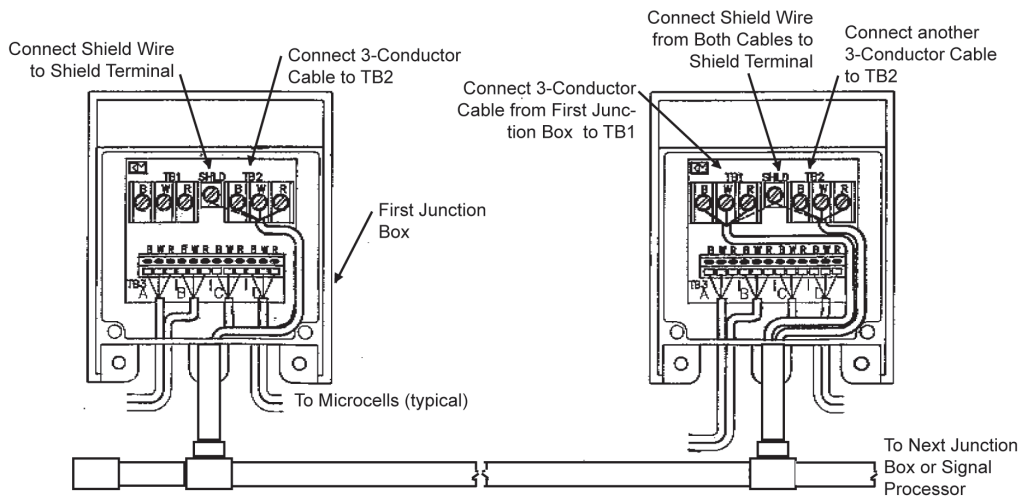
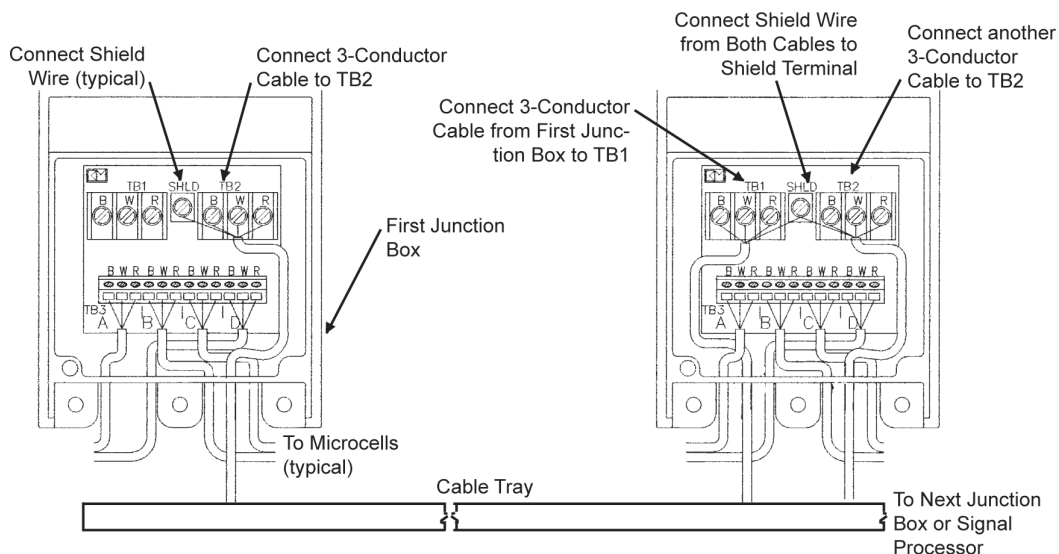

Figure 3-15. Wiring Junction Boxes Together - Conduited Installation.
Figure 3-16. Wiring Junction Boxes Together - Non-Conduited Installation.
2. See Figure 3-15 (for a conduited installation) or Figure 3-16 (for a non-conduited installation). Route the 3-conductor cable through the fitting into the junction box farthest from the signal processor. Connect wires from the cable to the TB3 terminal in the junction box; black wire to B terminal, white wire to W terminal, and red wire to R terminal. Connect the cable shield wire to the Shield terminal between TB1 and TB2.